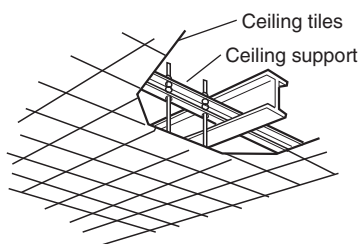

Fig. 1-93
- Use existing ceiling supports or construct a suitable support (Fig. 1-93).